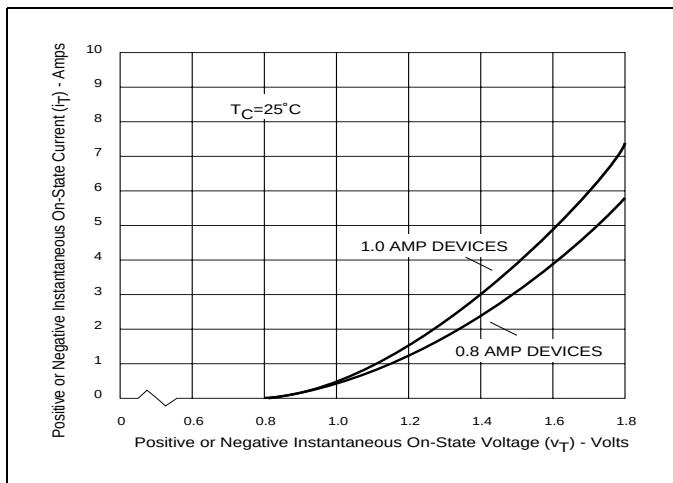

Figure 2.8 On-State Current vs On-State Voltage (Typical) (0.8 and 1.0 Amp)
- See Figures 2.8 through 2.10 for I_T vs T_C .